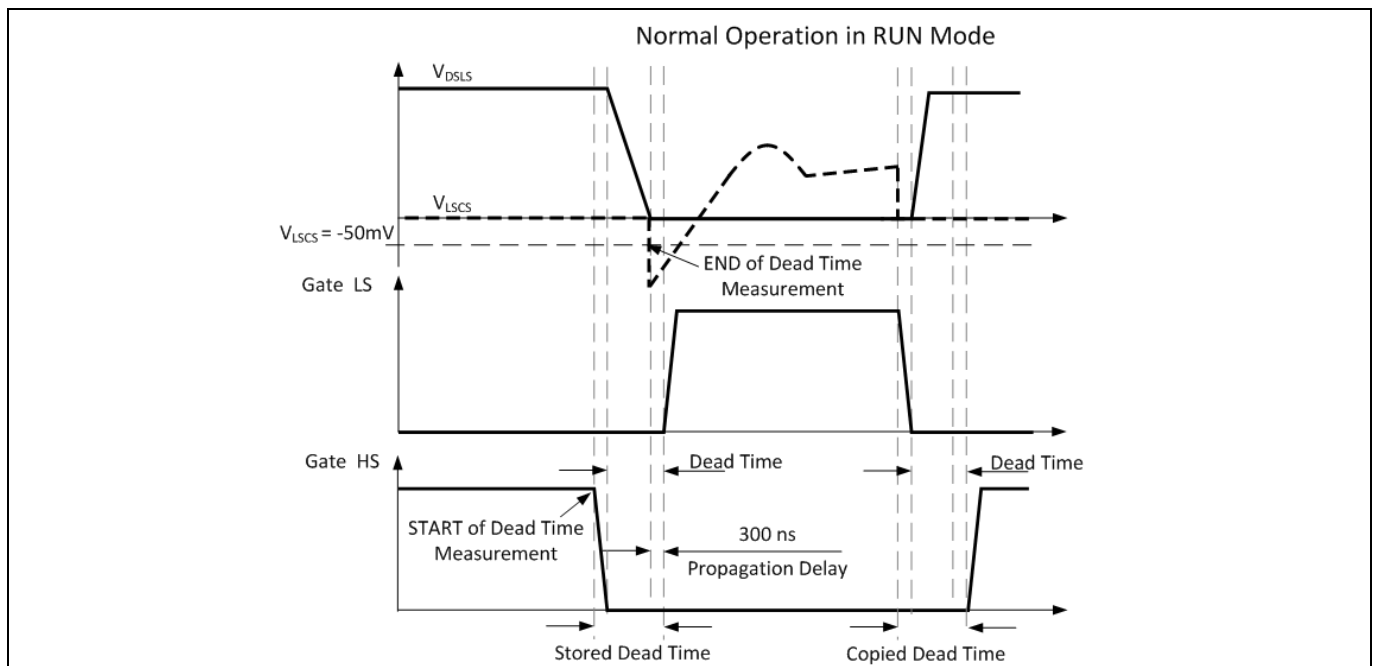

Figure 17 HB Self-Adaptive Dead Time
The dead time between ICL5102 HB low side (LS) and high side (HS) gate driver turn-on signals is self-adaptive. The typical range of the dead time adjustment is between 250 and 750 ns. The dead time is measured after the HS gate driver is turned off until the voltage at pin LSCS drops below -50 mV. This time is then used for the dead time between LS and HS as shown in the **Figure 17**.